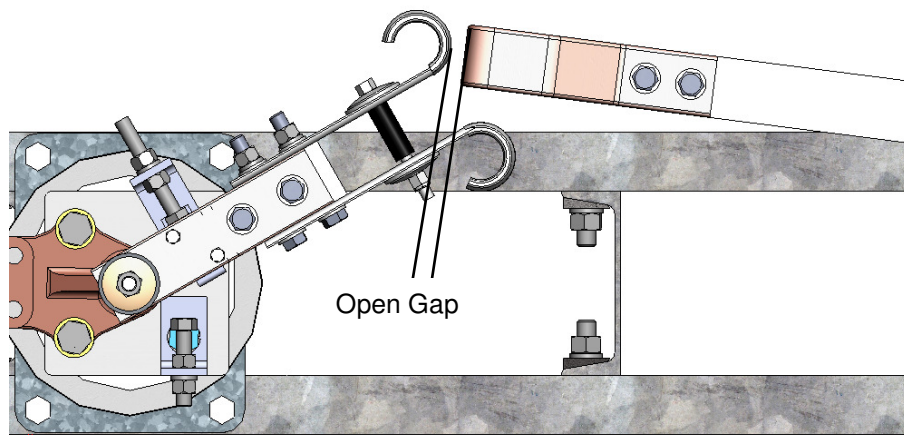

Figure 10: Female Blade Open Gap
- 3.8.2. There must be a small gap, less than one inch, between the contacts when the female blade assembly is fully open. Refer to **Figure 10**.